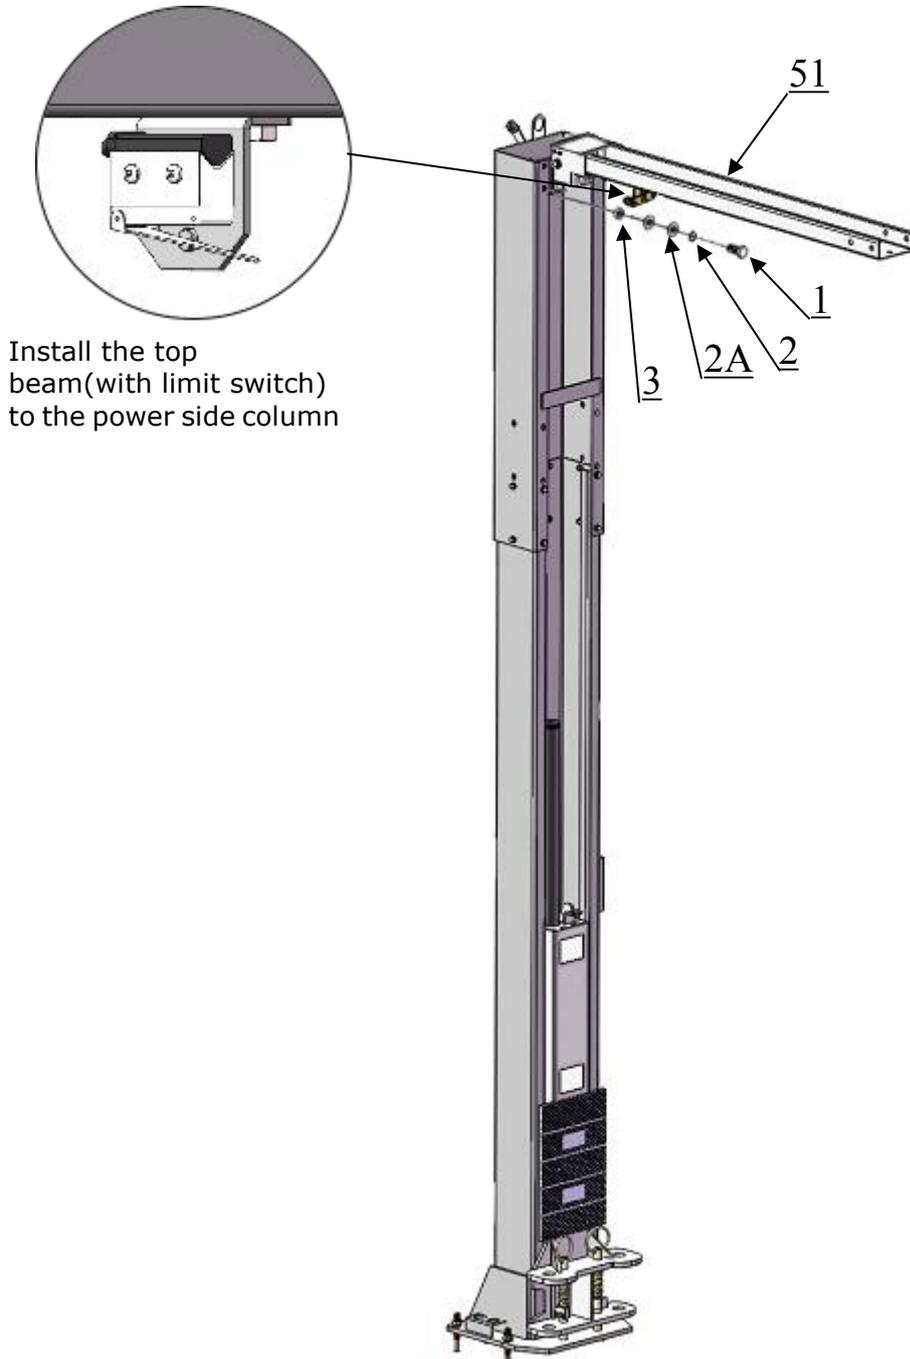

Fig.26
H. Install top beam (See Fig. 26).